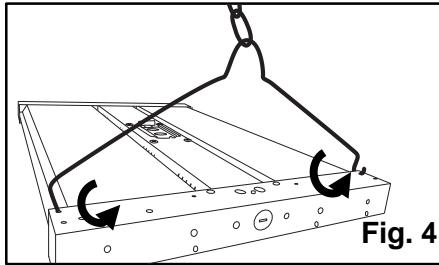

Fig. 4
6. Put a **chain** through the **hangers**. Hook the **hangers** into the **oblong holes** in the back of the fixture and through the **round holes** on the end of the fixture. [Fig. 4]